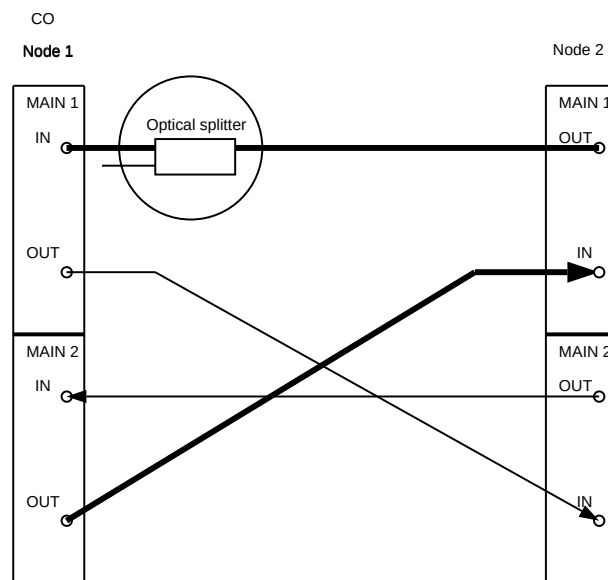

Figure 9. DDM-2000 OC-3 Point-to-Point to Ring Upgrade
19. At Node 1, install optical splitter in optical line between Node 1 **MAIN 1 IN** and Node 2 **MAIN 1 OUT** as shown in Figure 9.